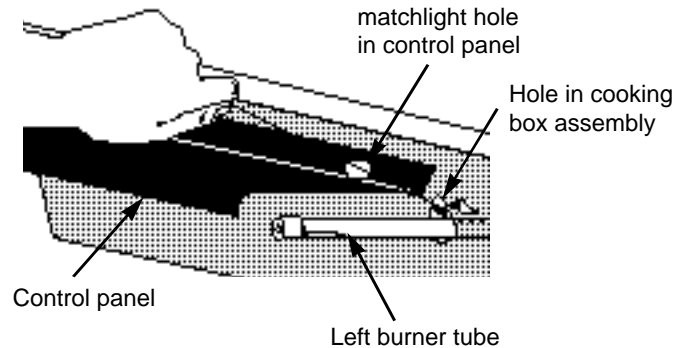

Figure 3
- 7) Insert match holder and lit match through matchlight hole to ignite LEFT burner. Figure 3.